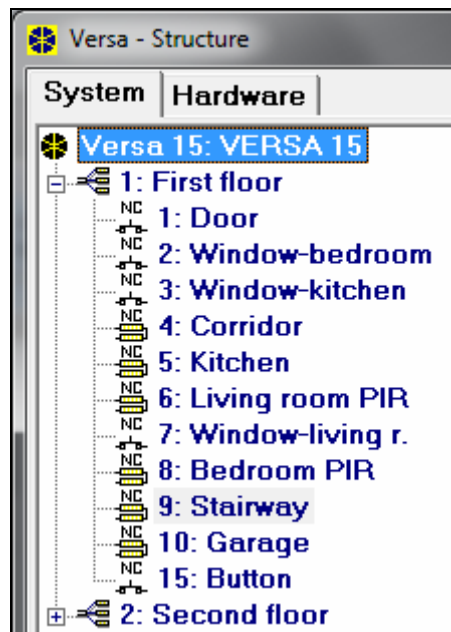

Fig. 6. DLOADX program: list of partitions and zones in a tree-like form in the “System” tab, “VERSA – Structure” window.
- DLOADX program: “VERSA – Structure” window → “System” tab. Partitions and zones are presented in the form of tree structure on the left side of the window (Fig. 6). Click on the partition you want to configure.
- “VERSA – Structure” window → “System” tab. Partition and zones are presented in the tree-like form on the left-hand side of the window (Fig. 6). Click on the zone, the parameters and options of which you want to configure.